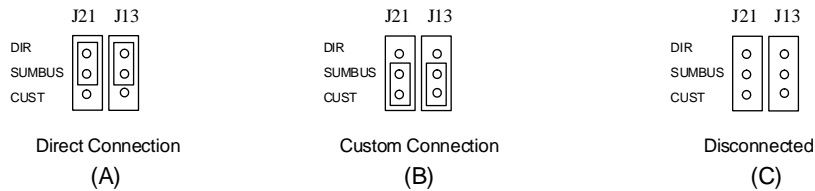

Figure 11. SUMBUS Jumper Settings
In order to use the SUMBUS signal, the jumpers J11 and J12 must be configured properly. The three different settings for the jumpers can be seen in Figure 11. The SUMBUS signal can be connected directly to the front panel (A), connected through the prototyping area (B), or disconnected (C).